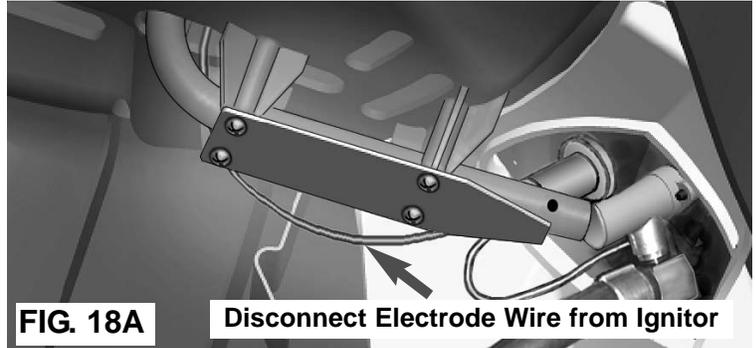

FIG. 18A
- 5) Remove excess grease and/or fat from the Bowl with a soft plastic or wooden scraper or nylon-bristled brush only. Do not immerse the gas controls. Avoid getting water in the Burner Holes. The Bowl Pan can be removed for additional cleaning or replacement. Follow procedure for removing the burner screw and Main Grill Burner. Then disconnect the electrode wire from the Ignitor under the grill and lift the Bowl Pan out. **(Fig. 18A & 18B)**